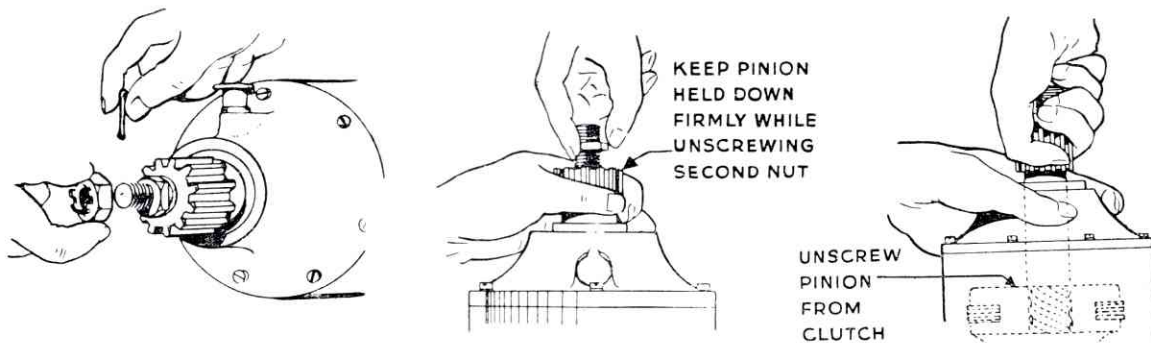

FIG. 130. RENEWING STARTER MOTOR PINION
3. Remove lubricator (if fitted), Fig. 130, and spring.